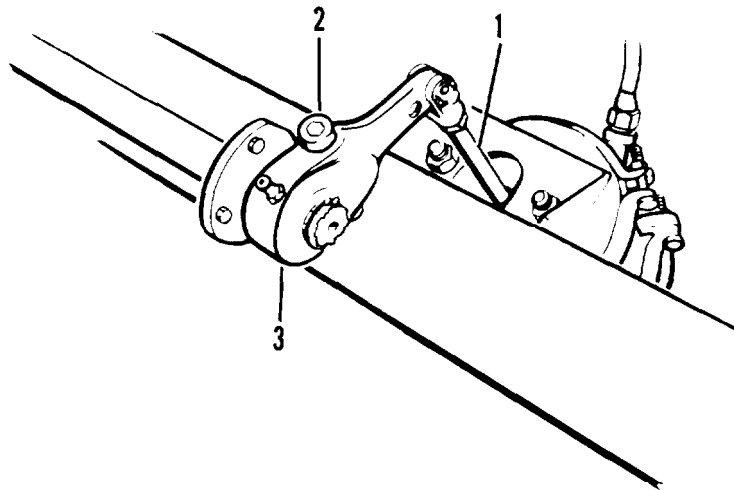

Figure 4-26. Slack adjuster adjustment
- (1) To release failsafe spring forces from slack adjuster and camshaft, apply air to air brake chamber. Do not apply the brakes. This procedure is to release failsafe spring.
- (2) Jack up the axle to be adjusted. Check that wheels rotate freely.
- (3) Check clevis rod (1, figure 4-26) adjustment. Dimension from outside of nonpressure housing to center of clevis pin must be $6\text{-}7/8 \pm 1/32$ inches (17.5 cm). Slack adjuster (3) may have to be moved or adjusted to center hole in air brake chamber with clevis rod (1). If dimensions of clevis rod are not correct, remove cotter pin, clevis pin and loosen locknut. Adjust clevis rod (1) to correct length. Tighten nut. Install clevis pin and new cotter pin.